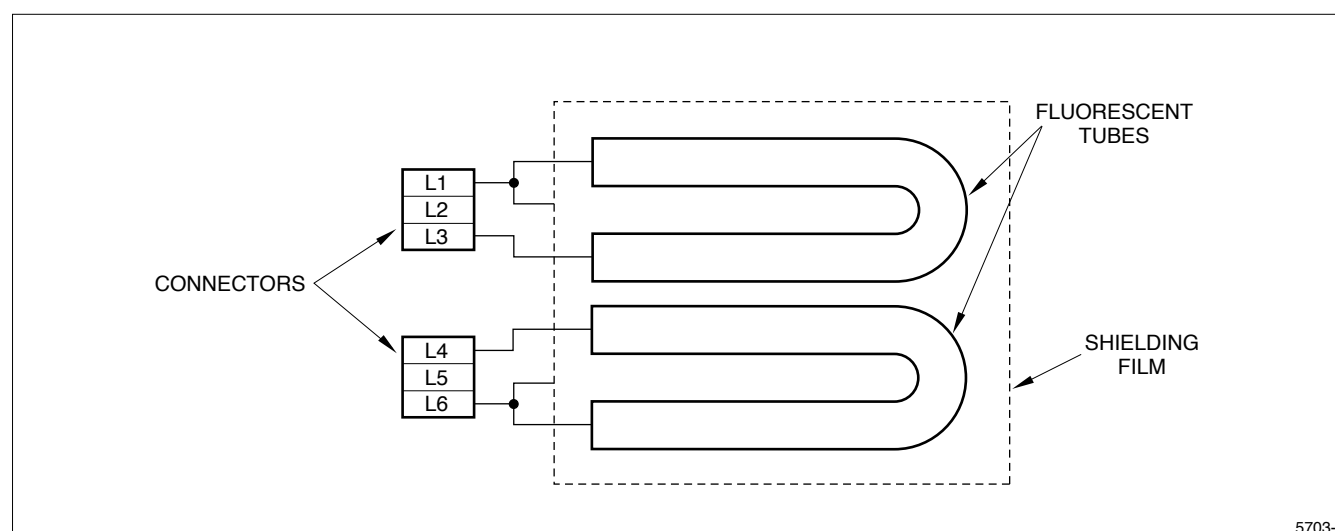

Figure 4. Wiring Diagram of Backlight Unit
- Should be grounded by the backlight driving DC/AC inverter, as the L1 and L6 terminals are connected with the shielding film in the module. These terminals will be grounded by the optional DC/AC inverter. For internal electrical connection of backlight unit, see Figure 4.